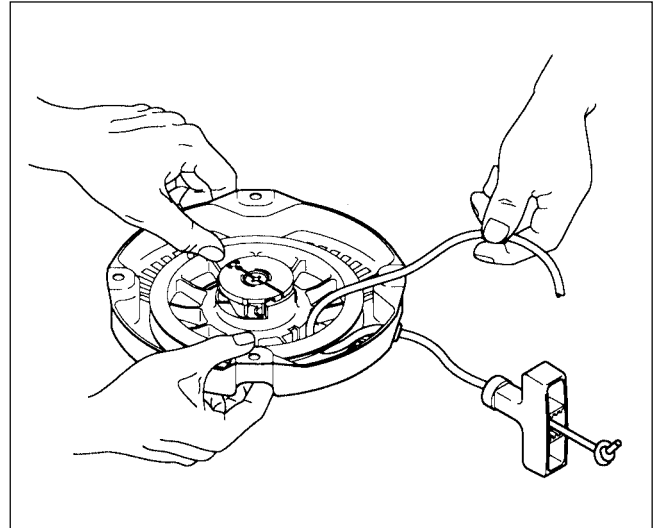

Fig. 10-1
(1) Relieve the spring power
- 3: Hold the reel with the thumbs of both hands firmly so that the rope will not be wound back. (Fig.10-1)